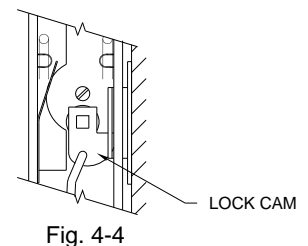

Fig. 4-4
6. After making certain the lock cam engages into the notch of the block as shown in Fig. 4-4, mark the position of the block on the jamb.